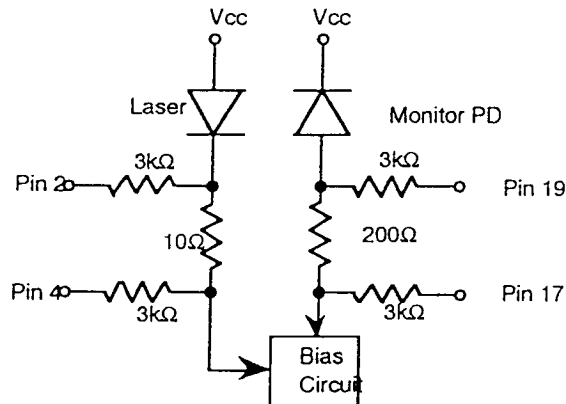

Figure 3 Monitor Circuit Schematic Diagram
8. The Laser Bias and Rear Facet Monitor currents are calculated as ratios of the corresponding voltages to thier current-sensing resistors, 10Ω and 200Ω , respectively (See Figure 3). Upon measuring or utilizing these values, use a device whose input impedance is high enough ($>1M\Omega$) compared with those resistors.
3. Please refer to Figure 3 for Pin 2, 4, 17 19.